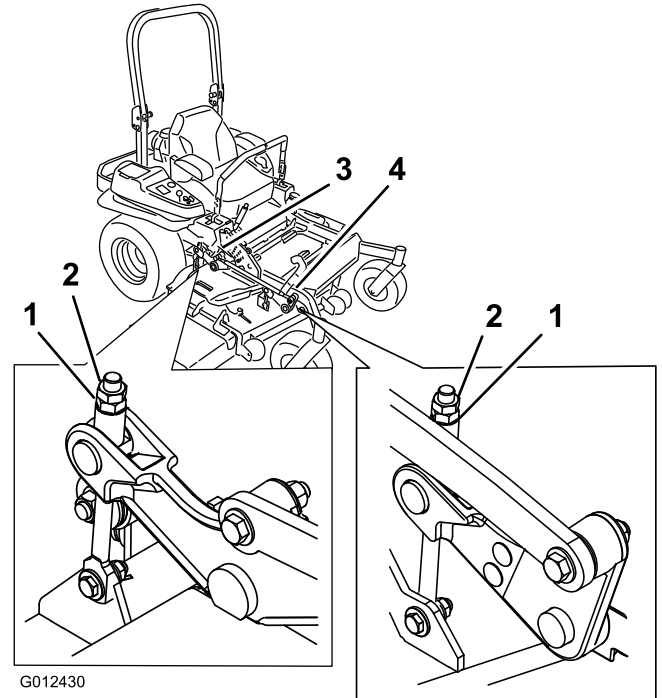

Figure 91
10. For mower decks shown in Figure 91, fine-tune the adjustment nut on the front deck lift assembly by turning it (Figure 91).
18. Fine-tune the adjustment nut on the front deck lift assembly by turning it (Figure 91).